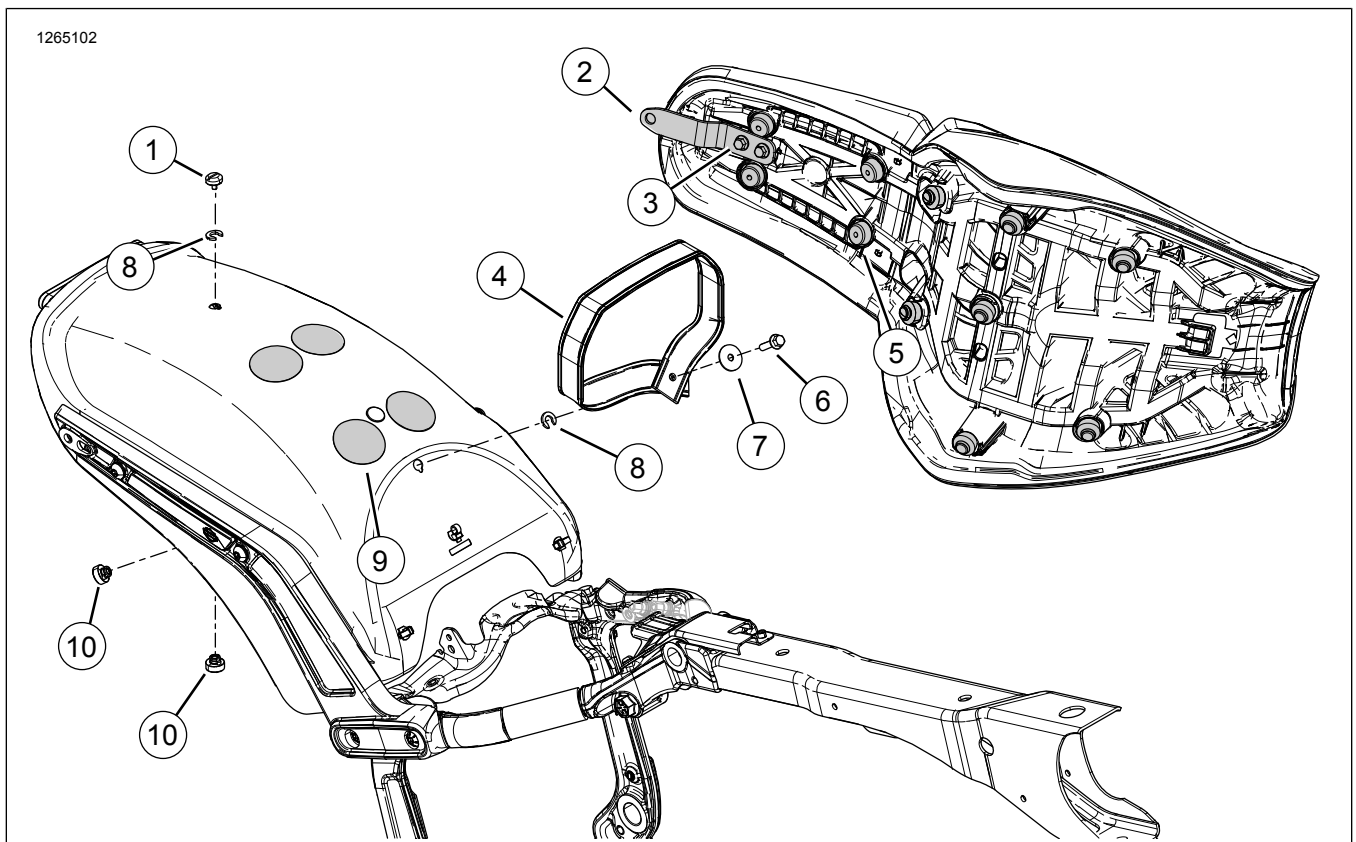
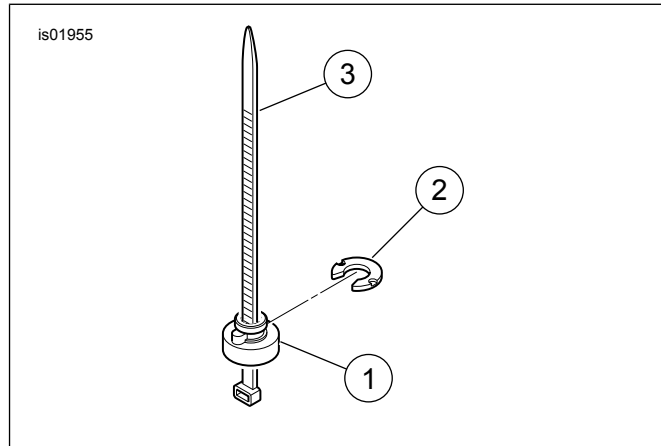

Figure 1. Kit Contents: Two-Up One-Piece Softail Seat
Figure 3. Installation Tool
3. **All kits except 52000353:** See Figure 1. Remove and discard OE grab strap.
1. **Kits 52000295, 52000297, 52000300, 52000355, 52000356, 52000387, 52000388, 52000400, 52000401, 52000652, 52000653:** See Figure 3. Install retention nut and retention washer in appropriate fender holes.
- a. A cable strap may be used as an installation aid to install retention nut and washer. Place retention nut (1) over cable strap (3).
- c. With rib on retention nut seated into notch in the appropriate fender hole, slide retention washer (2) into place from rear. This will lock retention nut in place.
2. **Kits 52000295, 52000297, 52000300, 52000355, 52000387, 52000400:** See Figure 1. Install protective tape.
- a. Mark bottom of isolators (5) that contact fender with chalk.
- d. **Kit 52000652, 52000653, 52000759, 52000761:** See Figure 1. If vehicle is equipped with stud plate, use stud plate to attach grab strap using flange nuts (10) from kit.
- e. Install protective tape (9) on rear fender over marks transferred to fender.
3. **All kits except 52000353:** See Figure 1. Install grab strap (4), screw (6) and washer (7). Tighten.
4. See Figure 1. Slide back of seat through grab strap and hook front tab of seat (12) into frame (11).